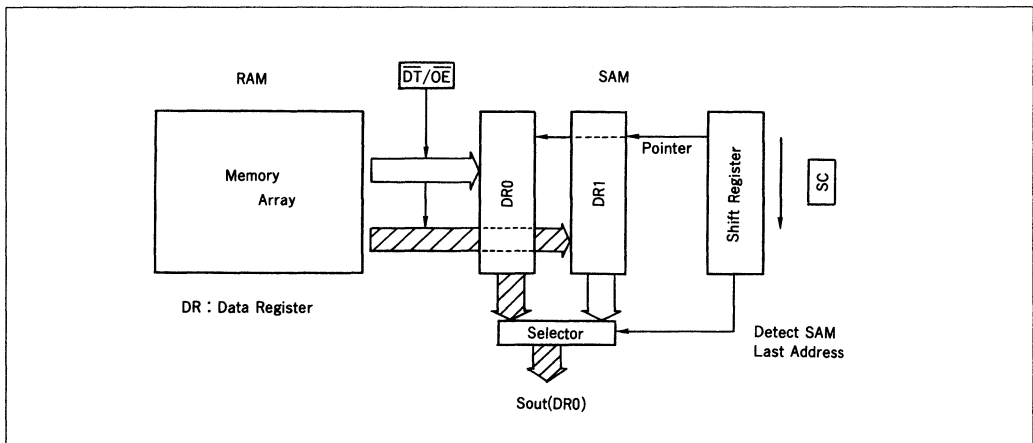

Figure 2. Block Diagram for Special Read Transfer
Figure 2 shows the block diagram for a special read transfer. SAM double buffers are composed of two data registers (DR). When data is read out from DR0 serially, special read transfer cycle transfers a row of RAM data, which will be read from SAM next, to DR1.